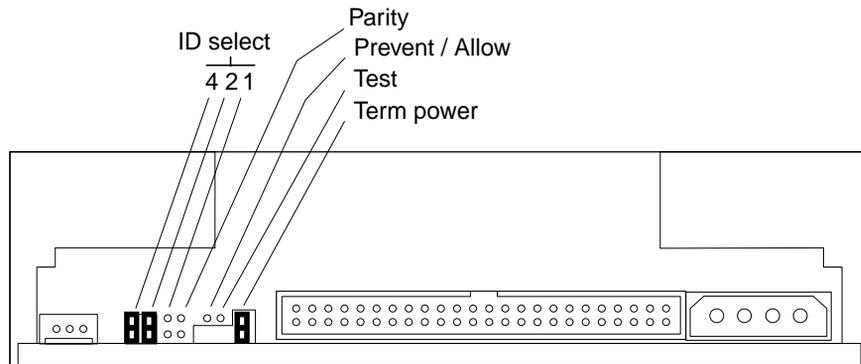

FIGURE 9-5 Jumper Settings for the CD-ROM Drive
- 2. Ensure that the jumper settings on the replacement drive match those shown in FIGURE 9-5.**